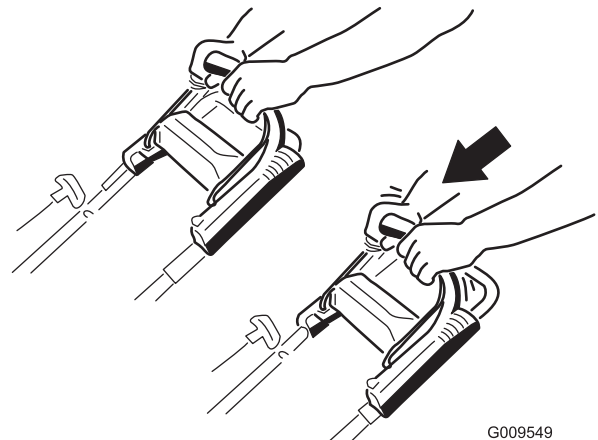

**Figure 14**
2. Pull the recoil-start handle (Figure 14).
(Figure 14). Allow the rope to return to the handle slowly.